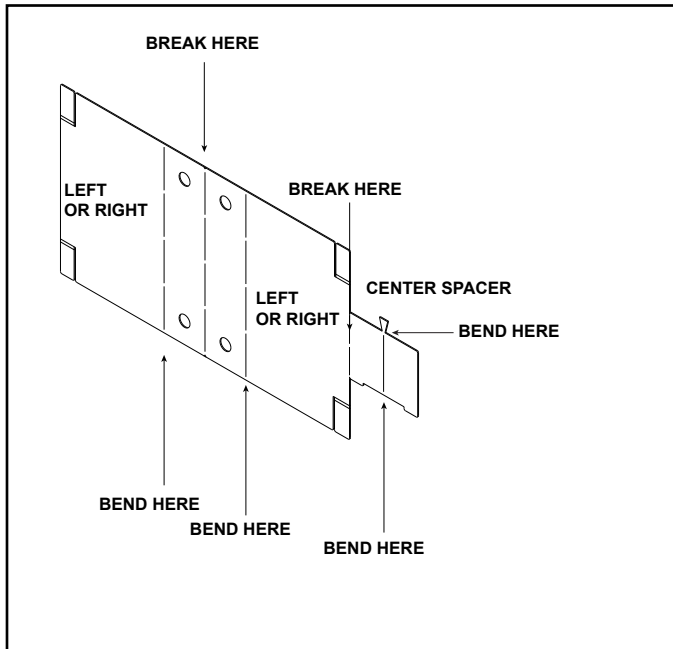
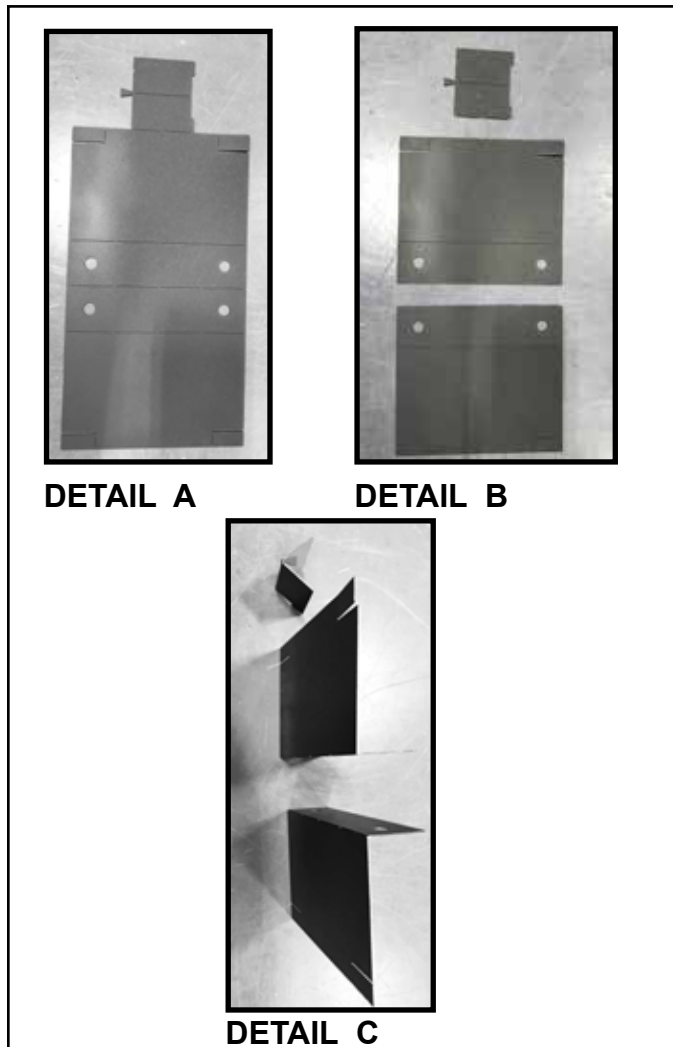

Figure 6.3 Finishing Trim
Figure 6.4 Break and Bend Finishing Trim
2. Locate the finishing trim piece and break at the two places noted in Figure 6.3. Bend as indicated in Figure 6.4, Detail A, B, and C.